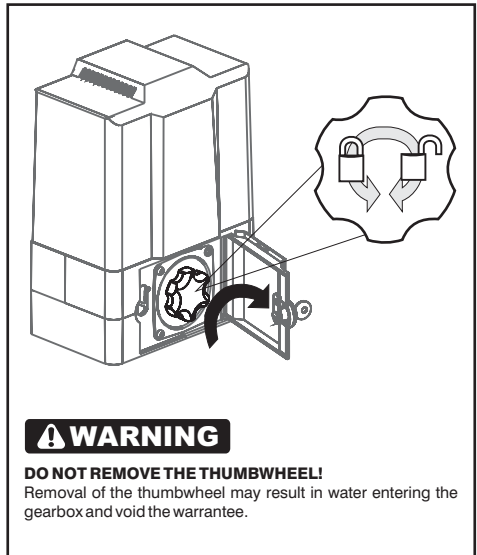

Figure 21 Rotate Manual Release Thumbwheel
5. Disengage the gearbox by manually rotating the manual release thumbwheel fully clockwise, or until clutch is fully disengaged and gate can be moved by hand. See Figure 21.